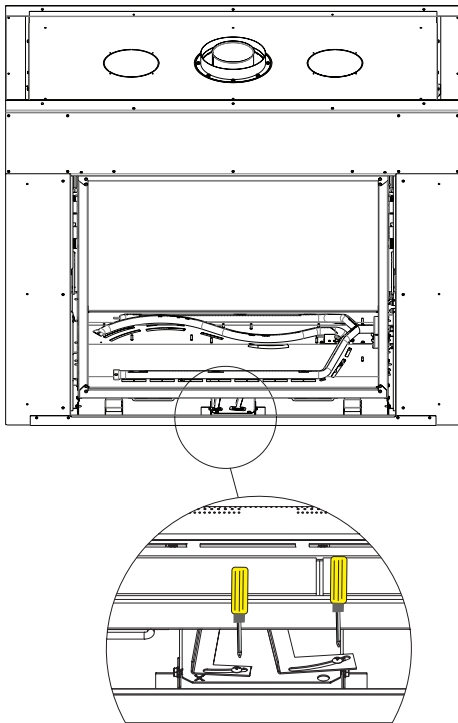

Figure 54
2. Loosen screws (2) that lock the air shutter handles. **See Figure 54.**